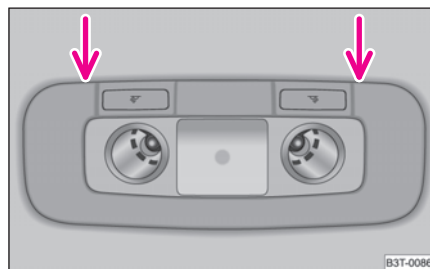

Fig. 229 Roof liner light at the rear
- Insert a narrow screwdriver into the slot ⇒ **fig. 229** and carefully take out the cover.
- Insert the light first of all on the side opposite the arrows ⇒ page 252, fig. 229 and press it in carefully until it locks in place. ■